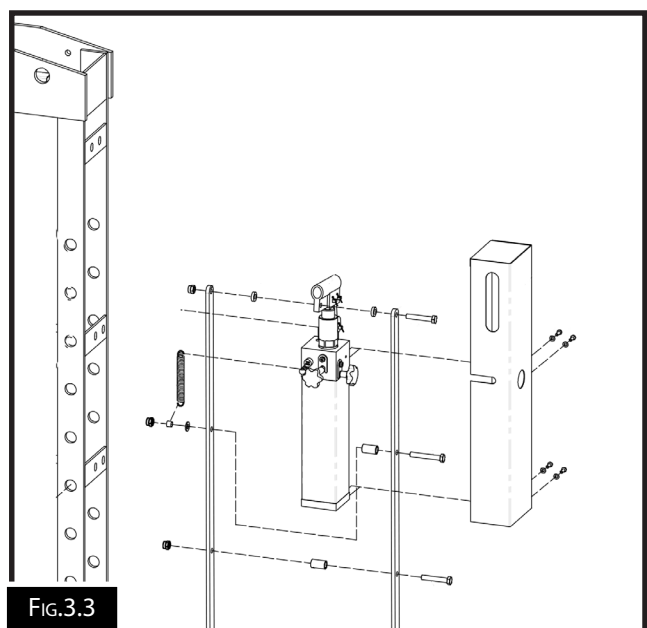

FIG.3.3
1. Remove the cover from the pump by undoing the 4 bolts on the back of the cover. (Fig.3.3)
2. Attach the hydraulic pump to the two brackets on the right hand side of the frame using the bolts and spring washers supplied. Ensure that the hydraulic pump is securely installed. (Fig.3.3)
3. Attach the two foot pedal straps to the pump and secure them to the pedal mechanism (Fig.3.3)